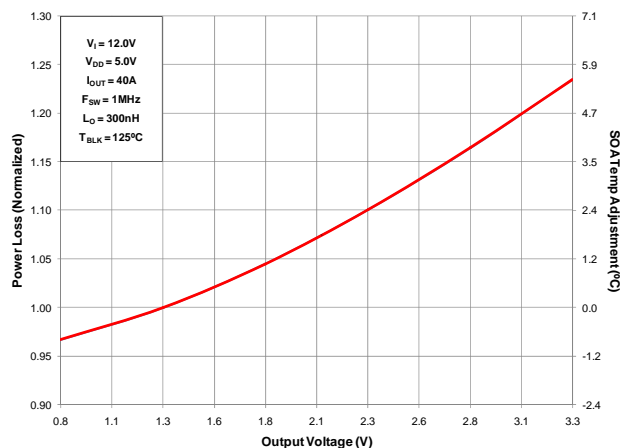

Figure 4 Normalized Power Loss vs. Output Voltage
| (Figure 4) | Normalized power loss for output voltage ≈ 1.23 |
- (Figure 4) SOA temperature adjustment for output voltage $\approx 5.5^{\circ}\text{C}$